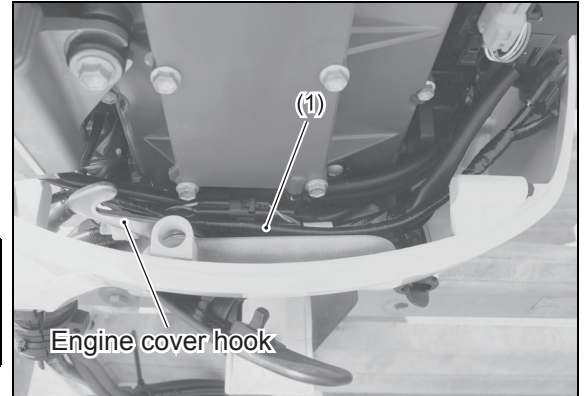

Fig. 1
2. Lay out the engine adapter wire (1) as shown in Fig. 1.